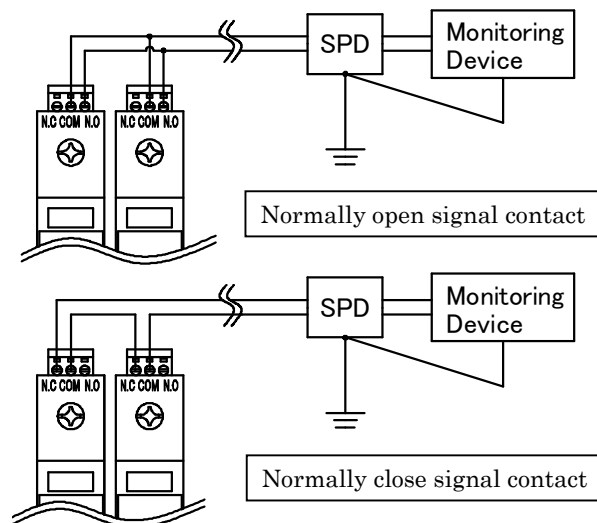

Fig.10 Connection example of signal wires (In case of 2 SPDs)
2) When more than 2 SPDs are combined for use, connect signal wires to all signaling contact terminals. The connection examples of them are shown in Fig.10.